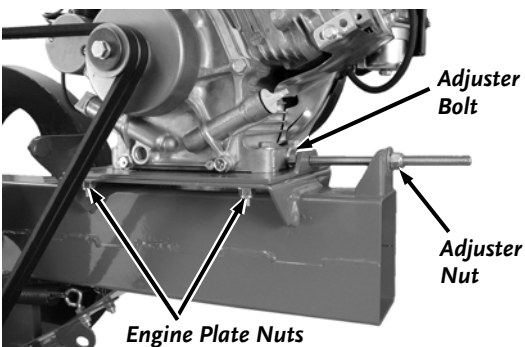

Figure 31
4. Loosen the four Locknuts that secure the Engine Mounting plate using a 1/2" Wrench (**Figure 31**).